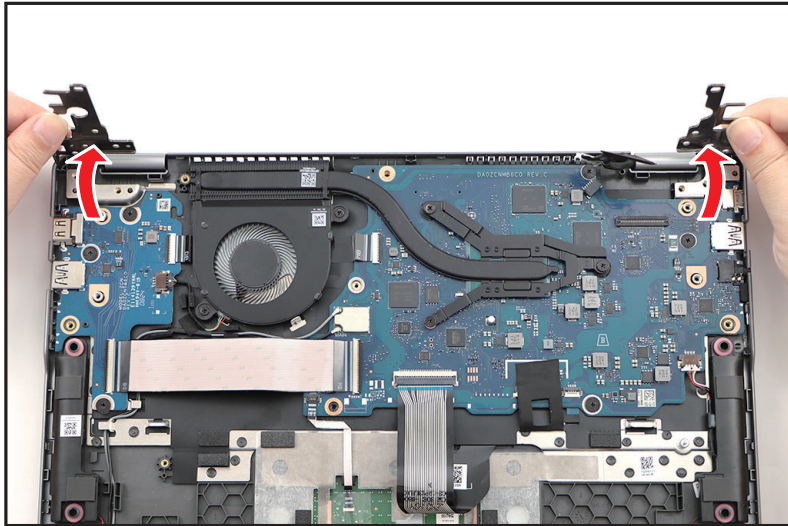

Figure 1-16. LCD Module Removal
4. Lift both LCD hinges until they are fully extended (Figure 1-16).